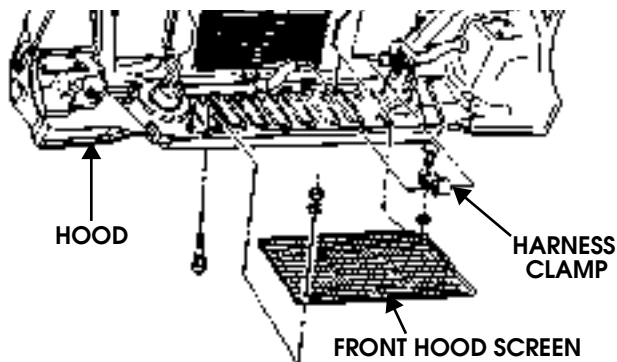

Figure 10-94: Front Hood Screen Replacement
1. Remove three locknuts, washers, and carriage bolts securing front hood screen to hood (Figure 10-94).
1. Secure front hood screen to hood with three washers, harness clamps, and bolts. Tighten bolts to 20-30 lb in. (2-3 N•m) (Figure 10-94).